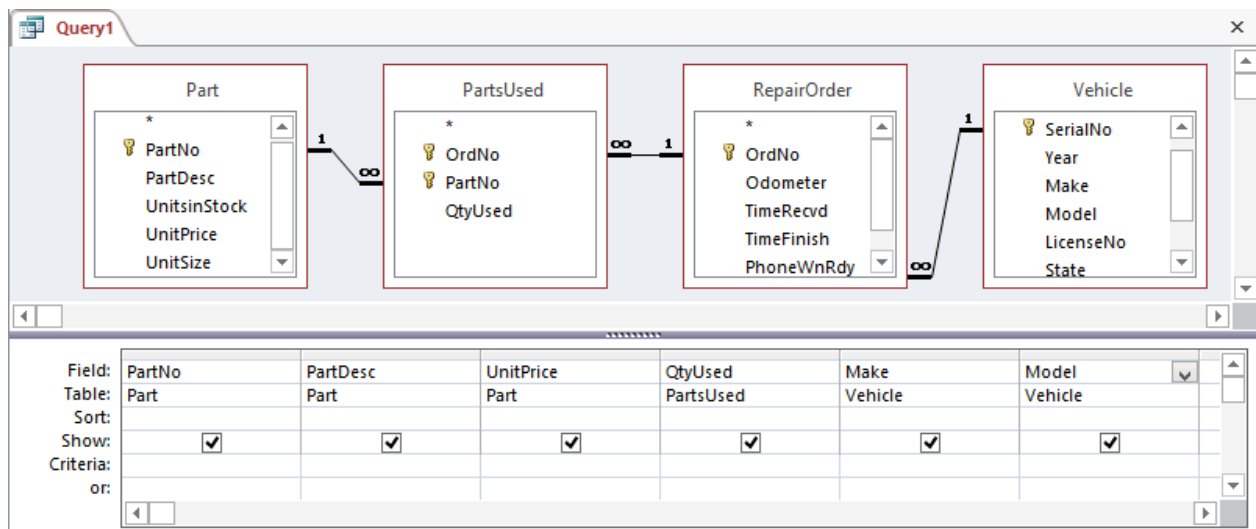

Figure 31: Design View of RptQuery4
3. Select Fields: Drag the following fields down to the query grid (Figure 31):